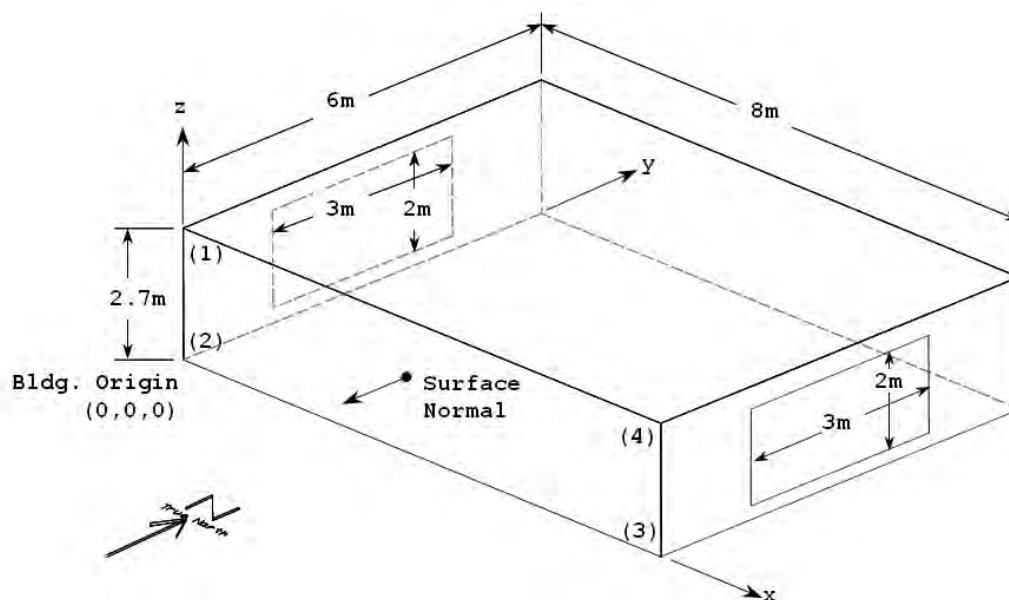

Figure 11. Schematic for Exercise 1
- 5) Add the east window (3m wide by 2m high, centered on wall, see the drawing in *Figure 11* to determine coordinates):
Vertex coordinates = as determined from the drawing *Figure 11*. Coordinates in this input are in World Coordinates (all relative to the global origin of 0,0,0). Coordinates are specified as viewed from the outside of the surface, using the rules specified in the SurfaceGeometry object.